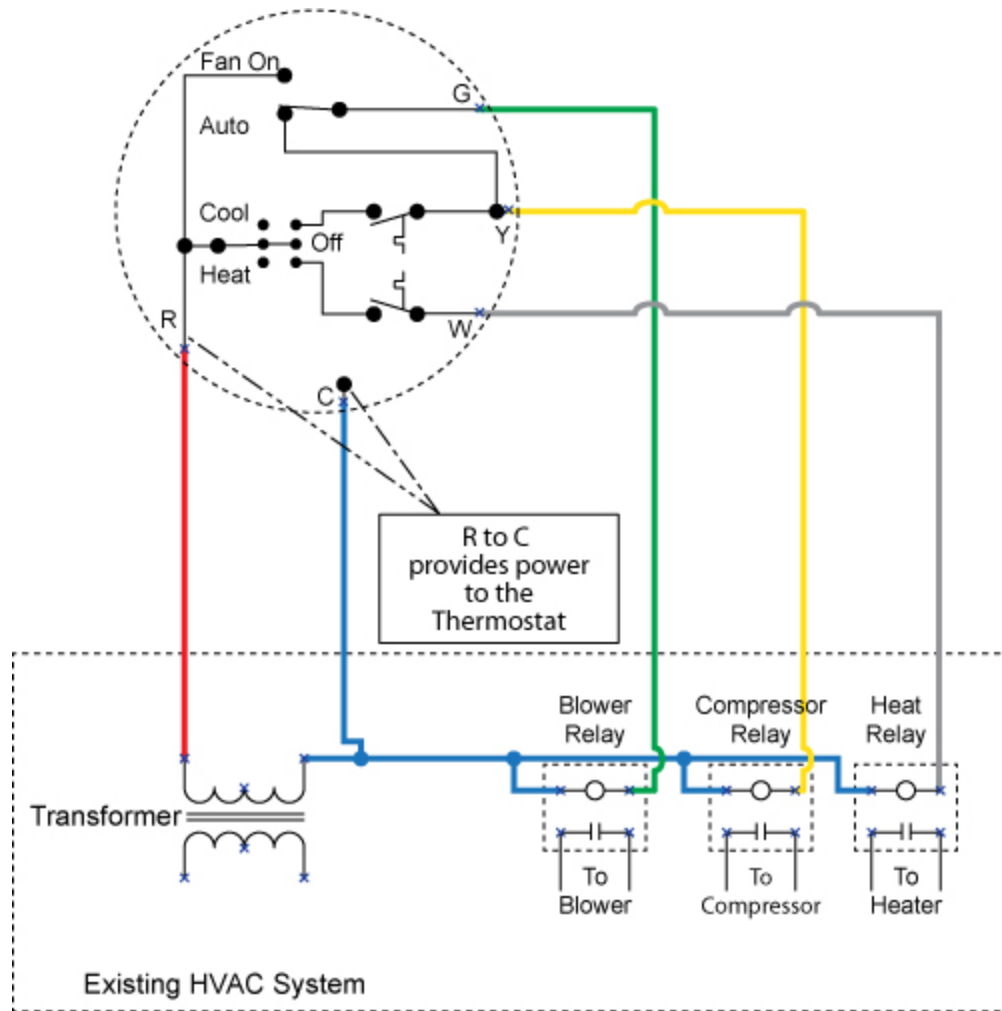
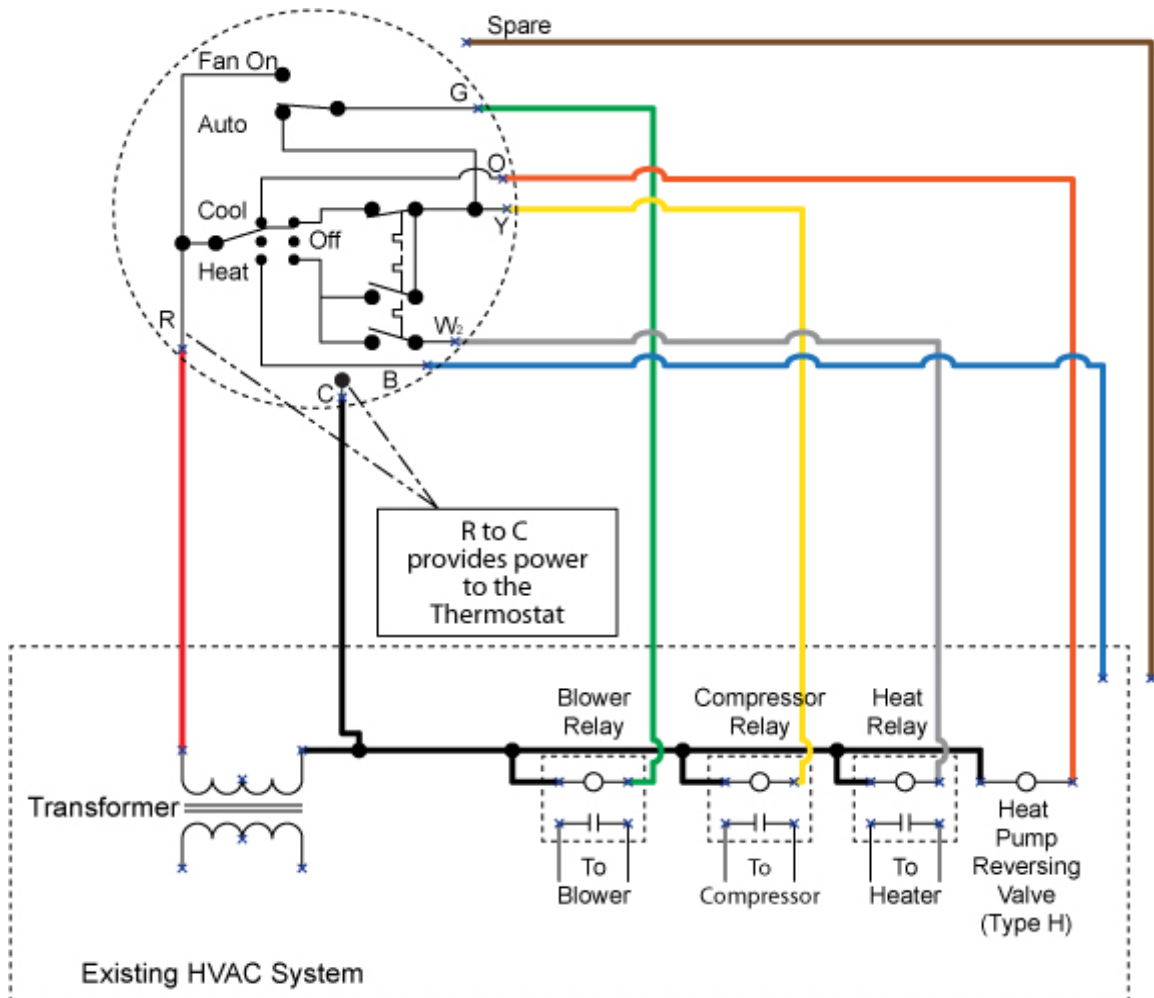
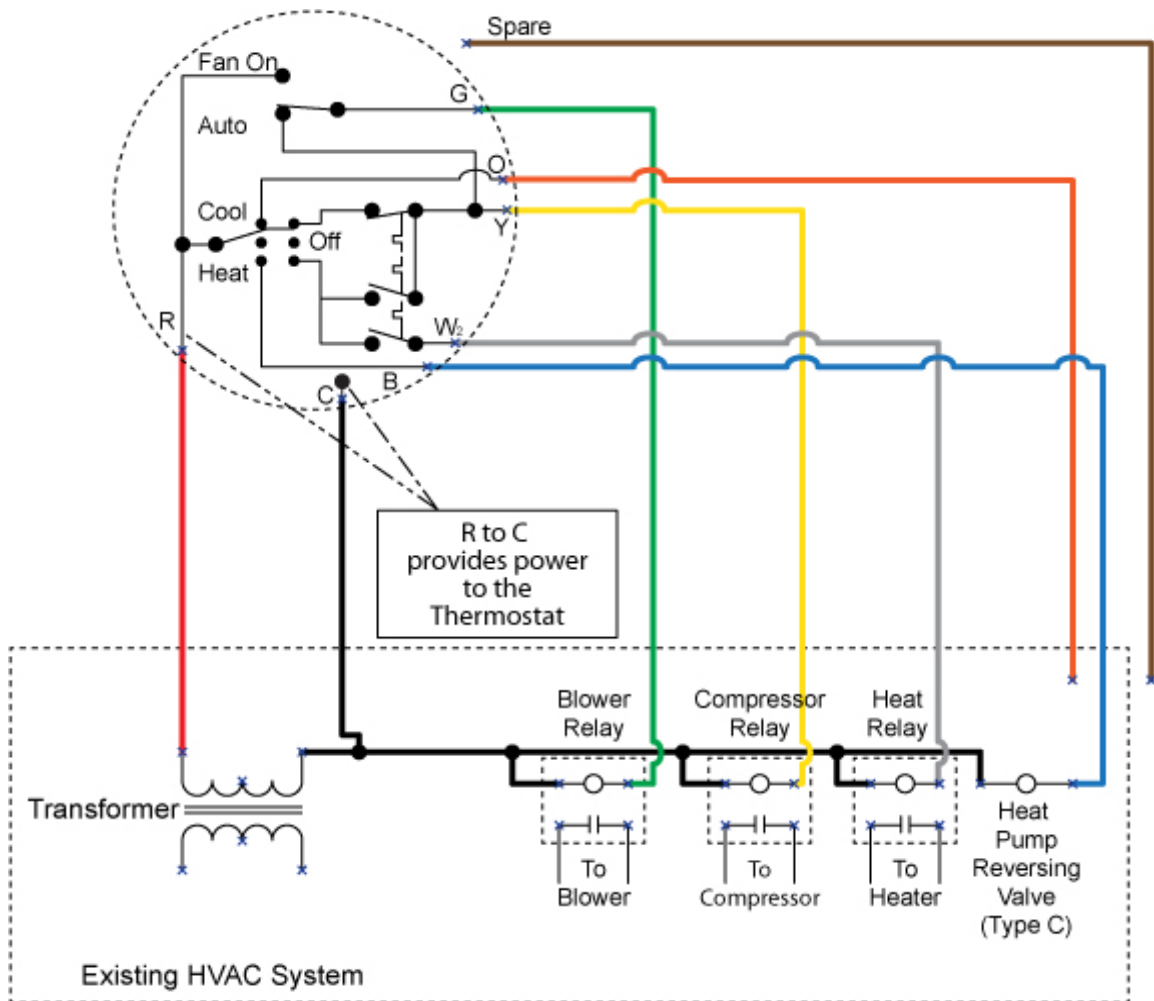

Figure 1. Basic Thermostat Circuit
Figure 2. Thermostat wired to activate a reversing valve to activate cooling mode
Figure 3. Thermostat wired to activate reversing valve to activate heating mode
In the most basic form of control, the C or common terminal of the low voltage transformer is connected in parallel to all of the control relays.. The R terminal of the low-voltage transformer is connected through the thermostat to each control relay. The thermostat controls the operation of the heater, compressor and blower as shown in Figure 1. Figure 1 is a circuit diagram showing the simplest possible known thermostat control system for heating and cooling operation of an A/C and Furnace or A/C and electric heat system.. For this system, you will notice that G (air handler blower) and Y (compressor/condenser fan) are connected. Therefore, the compressor/condenser fan and the air handler blower should always turn on at the
The following is an explanation of how Figure 1’s thermostat actually works. You don’t need to know the following to make the thermostat work but if you learn the theory behind why the thermostat above is able to function then it will help you when you come across other more complicated thermostats. If you are new to thermostats or wiring diagrams you may need to read the following section carefully several times. Refer back to the diagram often and don’t get ahead of yourself. If possible, share the section below with someone more experienced that can help explain how the thermostat above is capable of working.
Referring to Figure 1, the wire designated R continues the circuit from the transformer to the thermostat. The wire designated G, when connected to R by the thermostat (look in the area where it says "cool", "heat", and "off"), continues the circuit from the R terminal of the transformer to the blower relay, completing the circuit and activating the blower relay and thereby operating the blower. That is when the thermostat connects R-G then the 24 volts from the transformer flows to the contactor coil via the 24 volts AC supplied to C and G.
Refer to Figure 1, whenever the thermostat is set to cool the G and Y wires are both simultaneously connected to the R wire which completes all of their circuits. So when the system is set to cool the compressor/condenser fan (Y) and air handler blower (G) are both activated.
The wire designated Wx, (where x can be 1 or 2, it would be 1 in the above figure) when connected to R by the thermostat, continues the circuit from the R terminal of the transformer to the electric heat heater relay, completing the circuit and activating the heater. In the case of heating, there can be several heating control circuits, sometimes designated W1, W2, etc., where the thermostat may activate one or more heaters depending on the difference between the desired temperature and the actual temperature (when in the heating mode). There are many known variations of the heating configuration where one heating circuit may activate a heat pump, a second may activate a furnace and a third activates an electric heating circuit. Note that in the simple thermostat of Figure 1, when the thermostat (set to the heating position) calls for heat, the W1 circuit is activated, but the blower is not activated because the G wire is not attached to the W wire like it is to the Y wire. In "Heating" mode, when a furnace is used for heating, the blower is not typically activated by the thermostat, but rather may be controlled by a plenum temperature sensor in the vicinity of the heat source. If electric baseboard heating is used, the blower need not be activated.
For most heat pump and A/C systems with electric heat, typically only one transformer is used. However, as stated earlier, many furnace heating systems have a separate transformer to power the furnace heating circuit, so that a separate R circuit exists for the R to W switch, (where the Rc refers to the contact that closes Rc to G and Rc to Y during cooling, while the Rh to W1 contact is closed during heating). Once again, to provide the greatest flexibility, most thermostats have a separate circuit for Rc to G and Y and Rh to W, with a provision to jumper Rc and Rh together, to form the thermostat setup of Figure 1, namely a single R that can be connected to G, Y and W. If you have one transformer Rc and Rh will be jumped together, if the cooling and heat each have separate transformers Rc and Rh need to be separate circuits.
Figure 2 and 3 display a thermostat that is similar in operation to the thermostat of Figure 1, but also has a provision (R to B or R to O, only one is typically used), to activate a reversing valve, for example, in the case of a heat pump. In Figure 2, power to O when cooling is selected is used to activate the reversing valve (use when normal unpowered state of the heat pump is heating) whereas in Figure 3 power to B when heating is selected is used to activate the reversing valve (use when normal unpowered state of the heat pump is cooling).
Figure 2 and 3 display circuit diagrams of a common modern heat pump thermostat which do not use the W circuit to apply normal heat, instead both Y and G circuits are energized when either cooling or heating is needed. In Figure 2, the R-O circuit is used to energize the reversing valve when set to "COOL." In Figure 3 the same thermostat uses the R-B circuit to energize the reversing valve when set to "HEAT." While heat pumps use a reverse cycle to produce heating, they are almost always equipped with electric heat as a back-up emergency heat source. The R-W2 circuit in this thermostat is used to activate this emergency heating.
A typically thermostat will have a C terminal which along with the R wire provides 24 VAC to the thermostat for clock and other setback purposes. The G terminal is connected to the blower contactor coil, the Y to the compressor contactor coil, and the W terminal is used for heater activation. When W is used for emergency back up heat, it is typically labeled W2. Either the B terminal or O terminals are used for the heat pump reversing valve, while they can be used for any heating or cooling specific function.. A thermostat will make a R-B connection when it the System Selector is set to "HEAT" (as shown in Figure 3) and it will make the R-O terminal when the system is set to "COOL" as shown in Figure 2). Which circuit to use, namely the R-B or R-O depends on the heat pump reversing valve. If the reversing valve is normally closed in the cooling position, then it has to be powered to switch to heating mode, so the R-B circuit is used and the reversing solenoid is connected to C and B so that when the thermostat is calling for heat and completes the R-B circuit, then 24 VAC is supplied across C-B and the reversing valve is activated into heating mode. Likewise, if the reversing valve is normally closed in the heating position, then it has to be powered to switch to cooling mode, so the R-O circuit is used and the reversing solenoid is connected to C and O so that when the thermostat is calling for cooling and completes the R-O circuit, then 24 VAC is supplied across C-O and the reversing valve is activated into cooling mode.
As shown in Figure 1, for a standard heating-cooling thermostat there is no power to the Y circuit when the thermostat is set to either "OFF" or "HEAT." Similarly, if the fan switch is set to "AUTO" there is also no power to the G circuit when the thermostat is set to either "OFF" or "HEAT." There is, however, power to the G circuit if the fan switch is set to "ON," regardless of whether the thermostat is set to "COOL", "OFF" or "ON." See the images below for a visual representation of the various completed G circuits in a basic thermostat.
For a typical thermostat, as shown in Figure 1, when the thermostat is set to "COOL" and the fan set to "AUTO" both the blower (G) circuit and the compressor (Y) circuit are activated simultaneously when the thermostat calls for cooling. When the thermostat is set for "HEAT" (and the fan set to "AUTO"), neither the blower (G) circuit nor the compressor (Y) circuit are activated, regardless of the thermostat setting. Alternatively for a heat pump thermostat, both the R-Y circuit and the R-G circuit are activated on a call for either cooling or heating as shown in Figures 2 or 3.